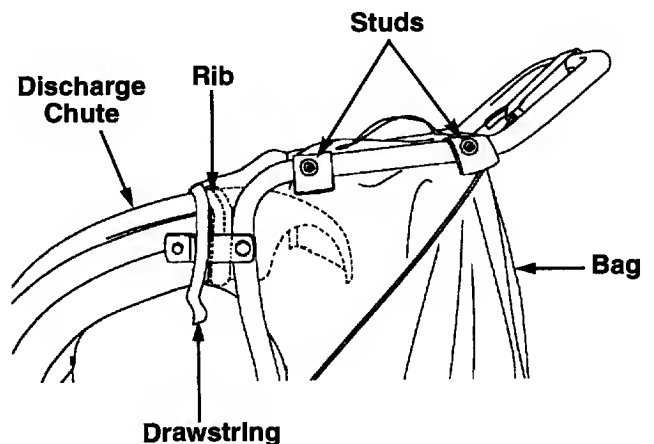

FIGURE 3.
3. Squeeze the clamp on the drawstring, and pull the drawstring tight. Release the clamp. See figure 3.